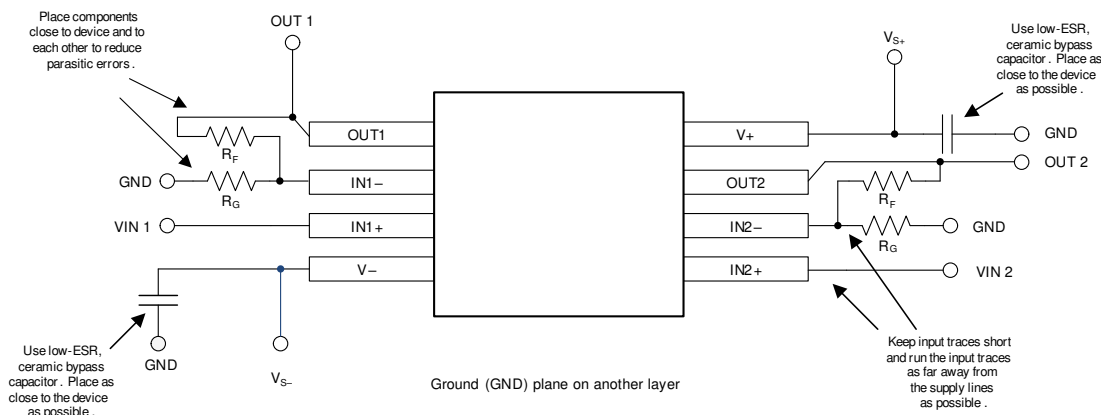

Figure 11-2. Layout Example
- Place the external components as close to the device as possible, as shown in Figure 11-2. Keeping  $R_F$  and  $R_G$  close to the inverting input minimizes parasitic capacitance.